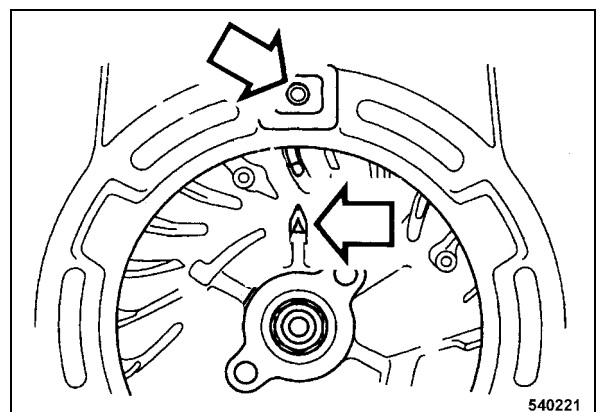

Fig. 45
- Align the alignment mark on the flywheel rib (Fig. 45) with the top bore in the fan cover .